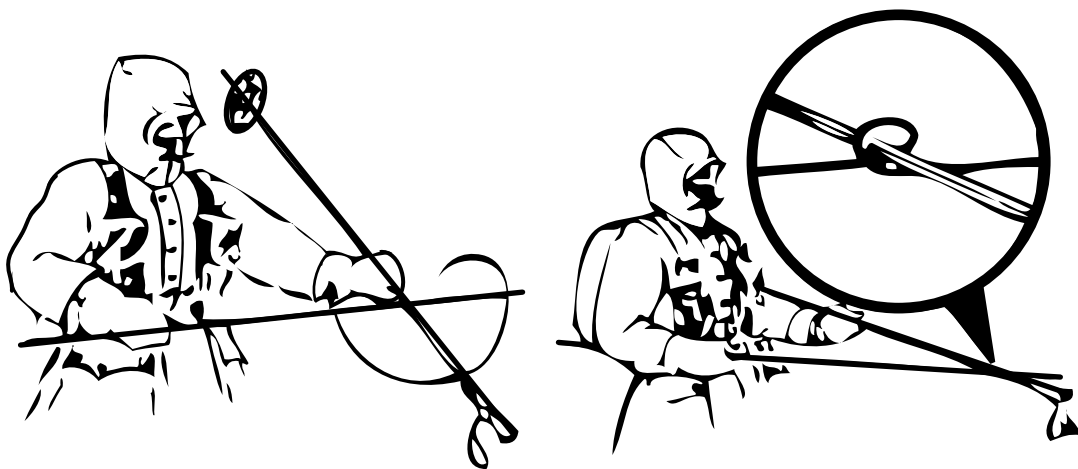

Figure F-3. Hooking Up to Skijoring Line with Ski Poles.
- Place the ski pole baskets behind the outside armpit to use as a rest (see Figure F-3).